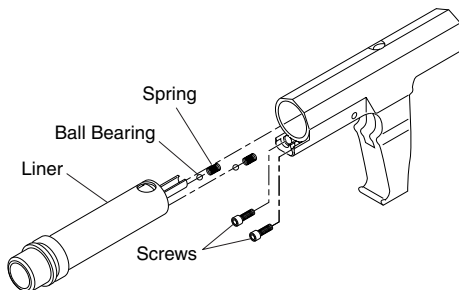

Figure 9 - Removing Liner From Tool Body
1. Replace two ball bearings and springs into end of liner (see Figure 9, page 20).